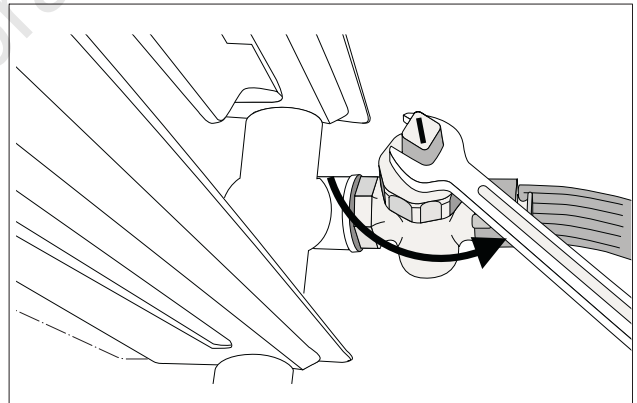

fig. 111 Draining the heating system
- Drain the heating water at the lowest point of the heating system, using the drain cock or the radiator (fig. 111). The (automatic) air vent at the highest point of the heating system/radiator must be open.